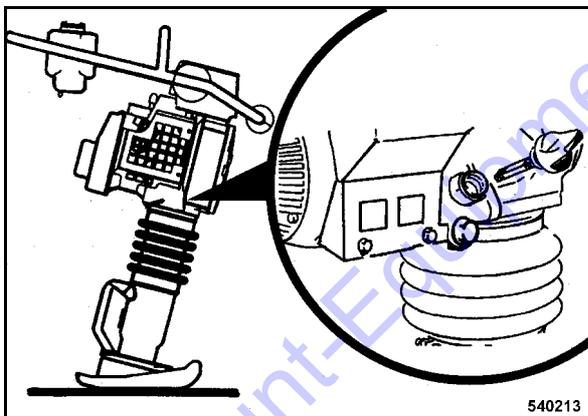

Fig. 38
- Unscrew the oil dipstick (Fig. 38).